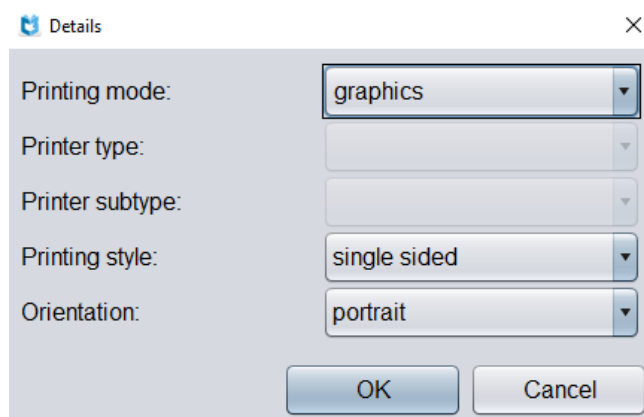

Figure 9: Details
- Figure 9: Details6
Once you select the printer, click the **Details** button and check whether the additional settings for this printer type are correct (see Figure 9).